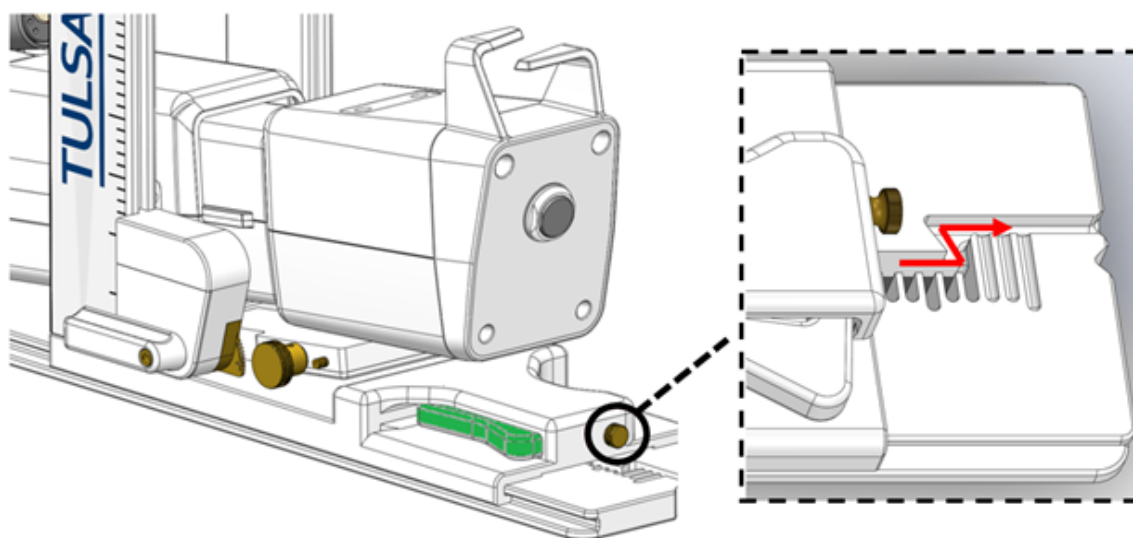

Figure 63: Removing PS from base plate
1. Remove the PS from its notched base plate by partially unscrewing the thumbscrew located on the rear of the PS base and depressing the horizontal adjustment lever through the Z channel at the rear of the PS base (*Figure 63*).